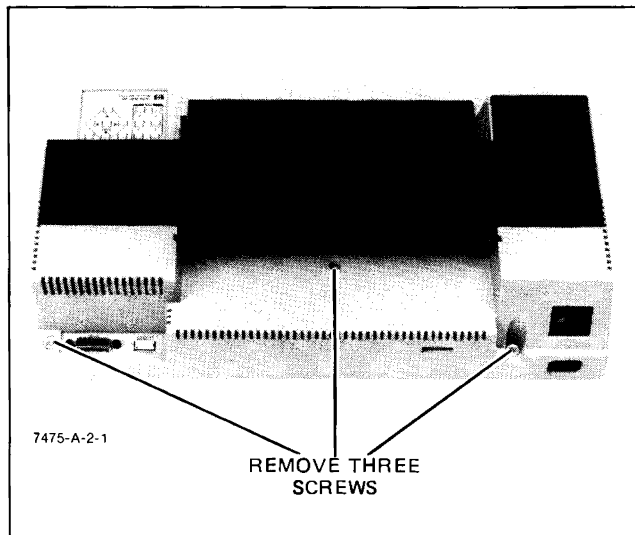

Figure 3-1. Top Case Removal
- a. Set the HP 7475A LINE switch to OFF (O) and disconnect the line cord.
- b. Remove the HP 7475A top case by removing the screws indicated in Figure 3-1.